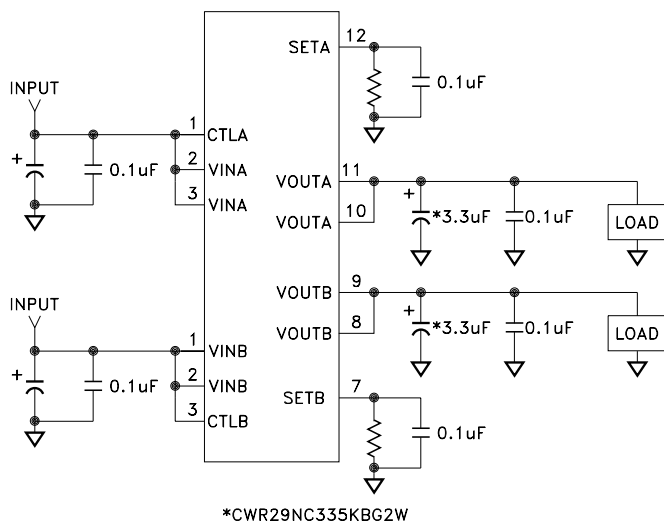

FIGURE 1
- ① Output is decoupled to ground using a 3.3μF tantalum low ESR capacitor in parallel with a 0.1μF ceramic capacitor unless otherwise specified. (See Figure 1).
- ② Guaranteed by design but not tested. Typical parameters are representative of actual device performance but are for reference only.
- ③ Industrial grade devices shall be tested to subgroup 1 unless otherwise specified.
- ④ Class V devices shall be 100% tested to subgroups 1,2 and 3.
- ⑤ Subgroup 1 T_A = T_C = + 25°C